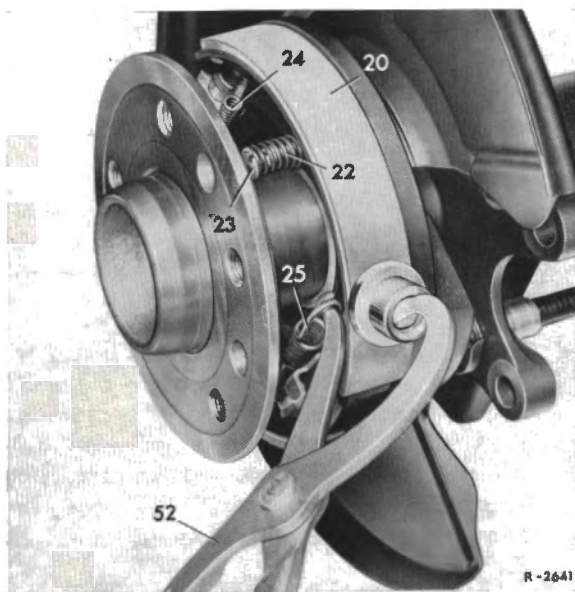

Fig. 42-28/2
7. Unhook the upper return spring (24) from the brake shoe (20) and remove the readjustment device (21) (Fig. 42-28/4).